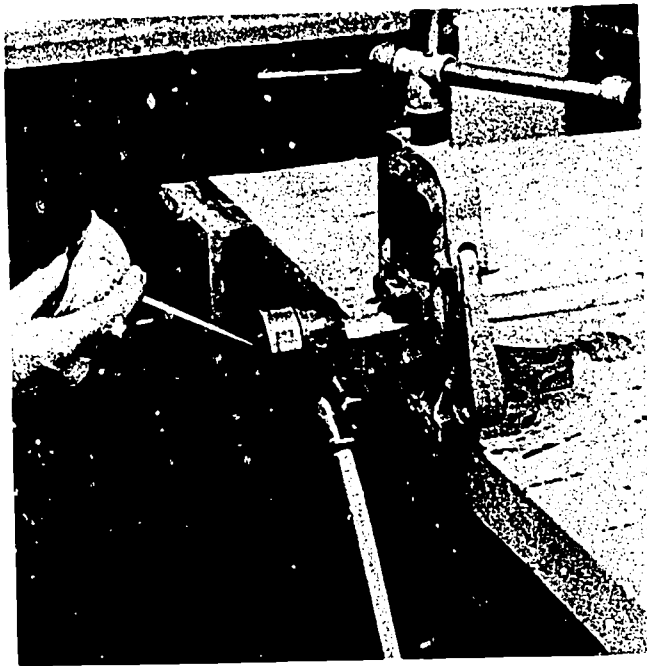

Fig. 50-6. Using Oil to Aid in Cutting Threads
5. Cut a thread on the end of the 14" pipe. Use cutting oil occasionally to aid in cutting. See Fig. 50-6. Cut the thread two turns past the face of the die as shown in Fig. 50-7.